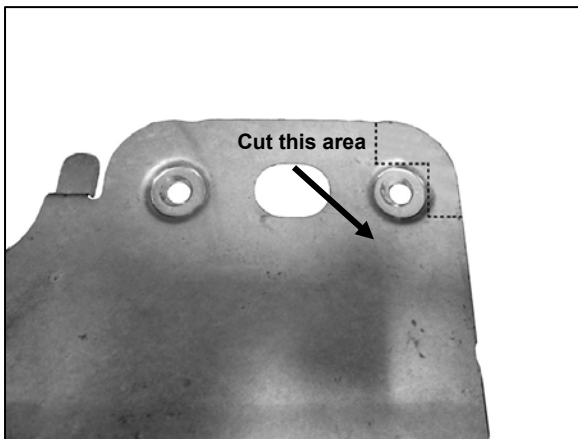

Fig 1
2. On the driver's side of the vehicle locate the heat shield right above the muffler. There are two bolts on the outer side of the vehicle and one bolt on the inner side of vehicle that holds the heat shield to the vehicle, remove these bolts and place heat shield aside. Use a metal cutting scissors to cut the marked area as shown in **Figure 1**.